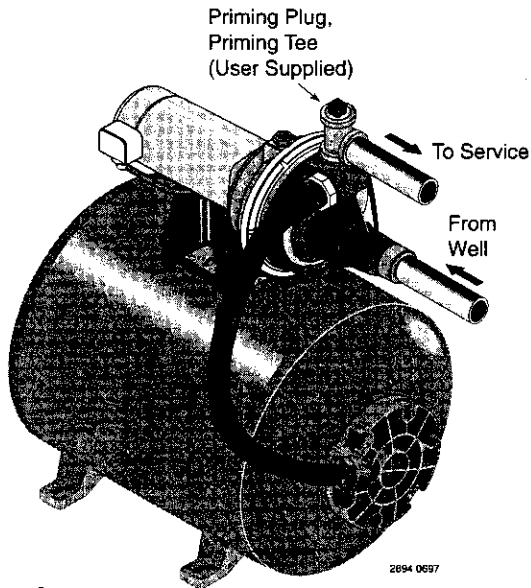

Figure 1
When using a foot valve, a priming tee and plug as shown in Figure 1, are recommended.
NOTICE: To properly prime the pump, install a pipe tee in the discharge piping (see Figure 1, Page 4).
1. Remove priming plug (Purchase separately; Figure 1, Page 4).